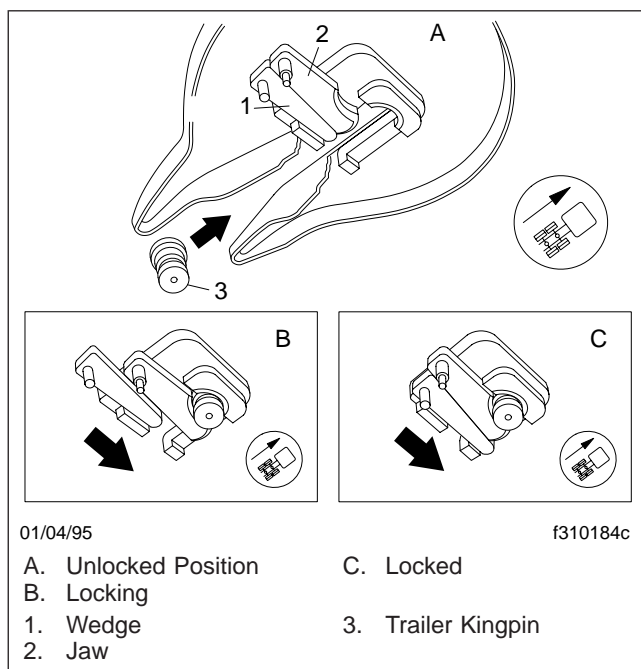

Fig. 10.18, Fontaine Kingpin Lock Mechanism
Fifth Wheel Lock Mechanism for Trailer Kingpin (See Fig. 10.18)
During coupling (Fig. 10.18), the motion of the kingpin entering the jaw will actuate the jaw and wedge. The jaw will move behind the kingpin, followed by the wedge. The purpose of the wedge is to reinforce the jaw and take up slack around the pin. Any wear on the jaw is immediately taken up by the wedge so there is no slack in the connection.
3. Position the tractor so that the fifth wheel lock opening is in line (both vertically and horizontally) with the trailer kingpin. The kingpin should be in a position to enter the throat of the locking mechanism, as shown in **Fig. 10.18**. Adjust the trailer landing gear to give enough alignment height for positive kingpin lockup.